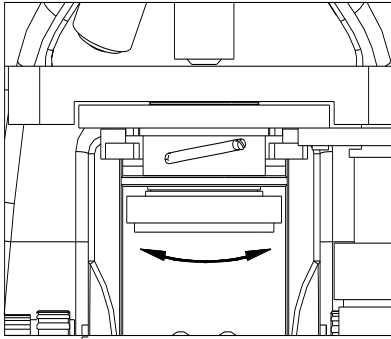

Fig. 11
2. Turn the condenser lever right or left to change the height of the condenser and the N.A. of the illumination system (see Fig. 11). The condenser should be in its highest position during operation.